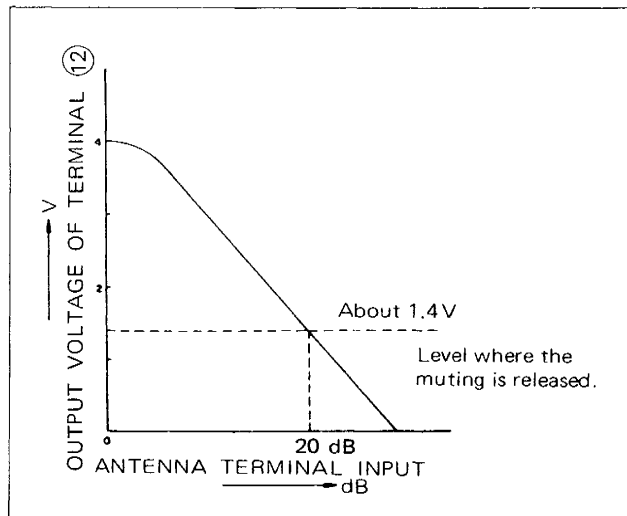

Figure 9-4
In these sets SA-5602 and SA-5606, IC102 incorporates a muting circuit and this circuit is so designed that if FM input signal caught by the antenna becomes about 20 dB when the muting switch (SW203) has been set "on" position, the muting effect is released and thus the signal can appear at the output without undergoing muting. The muting release signal first develops at the terminal ⑫ of IC102, then to be applied through the muting switch (SW203) to the terminal ⑤ of IC102, so that the muting effect is able to become nil. Figure 9-4 shows the output voltage of the terminal ⑫ of IC102. This signal (to release the muting) is then supplied to the terminal ⑩ of P.L.L. stereo multiplex demodulator integrated circuit IC103 to make stereo signal be forced to monaural signal.